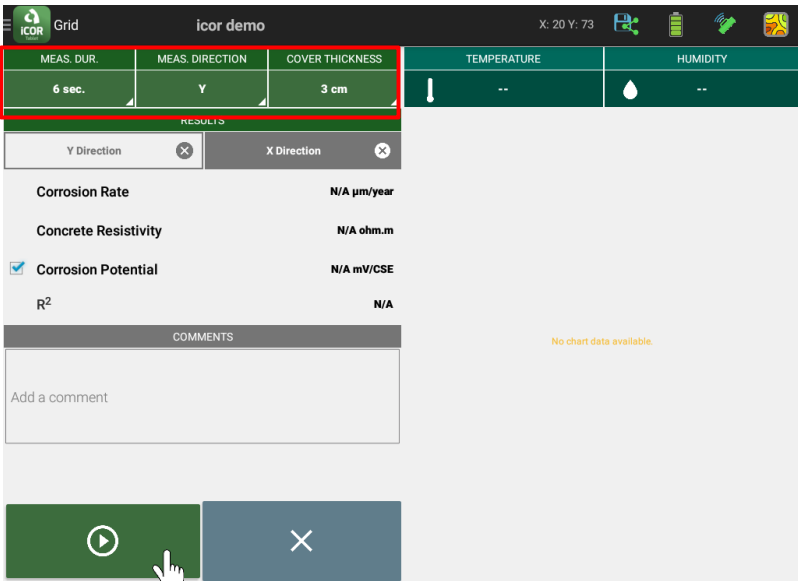

Figure 24. Test setup parameters
Step 9: In this step, the user is asked to set the measurement parameters including the duration of the test, the direction of the measurement, and the concrete cover thickness over the steel bars (Fig. 24). The user can also select which parameters to be included in the measurement. The corrosion rate measurement and concrete electrical resistivity are on by default, while the half-cell corrosion potential is off by default.